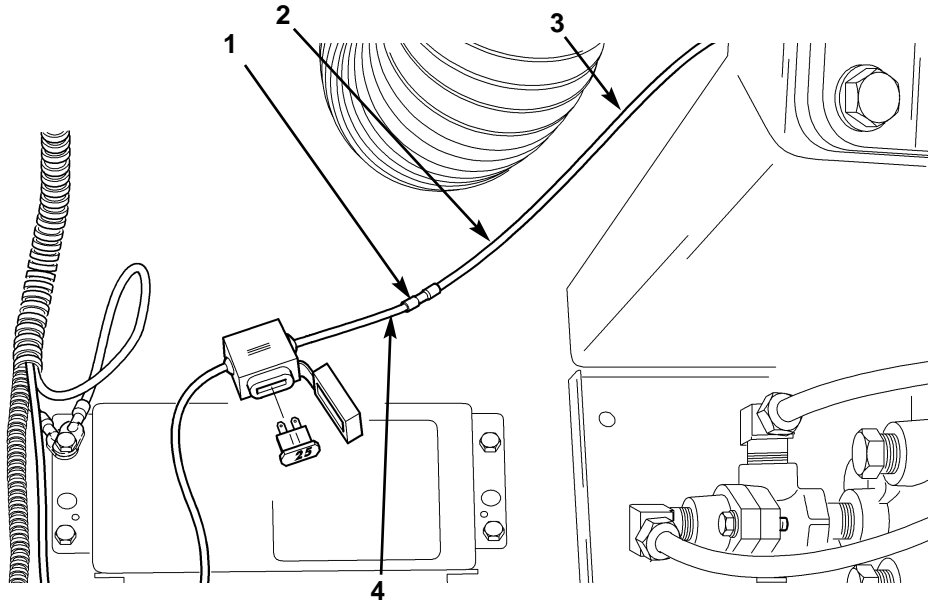

Figure 80. Connecting ABS ECU Harness to Battery Power.
25. Working under dash panel (figure 80, item 3), locate circuit 40 purple wire (figure 80, item 2), and connect 36 in. (91 cm) 30-amp fused red wire (figure 80, item 4) to purple wire (figure 80, item 2) with wire connector (figure 80, item 1).